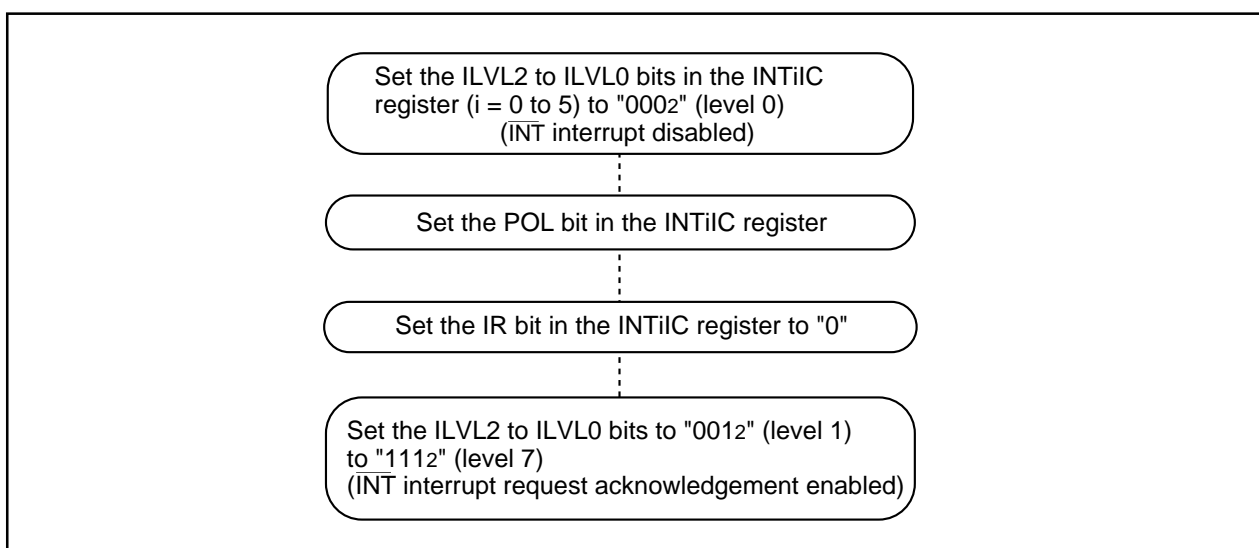

Figure 27.3 Switching Procedure for $\overline{\text{INT}}$ Interrupt
- The IR bit may change to "1" (interrupt requested) when switching the polarity of the $\overline{\text{INT0}}$ to $\overline{\text{INT5}}$ pins. Set the IR bit to "0" (no interrupt requested) after selecting the polarity. Figure 27.3 shows an example of the switching procedure for the $\overline{\text{INT}}$ interrupt.